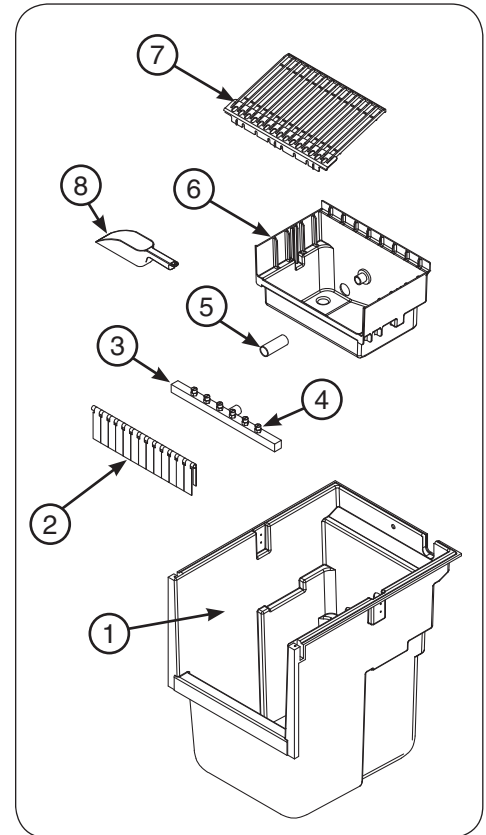

Fig. 13-1 Ice-production system components
7. Clean the ice container (1), ice curtain (2), nozzle frame (3), spray nozzle (4), connective hose (5), the inside of the water container (6), slide grill (7), and ice scoop (8) using a mixture of washing agent and water. See Fig. 13-1.